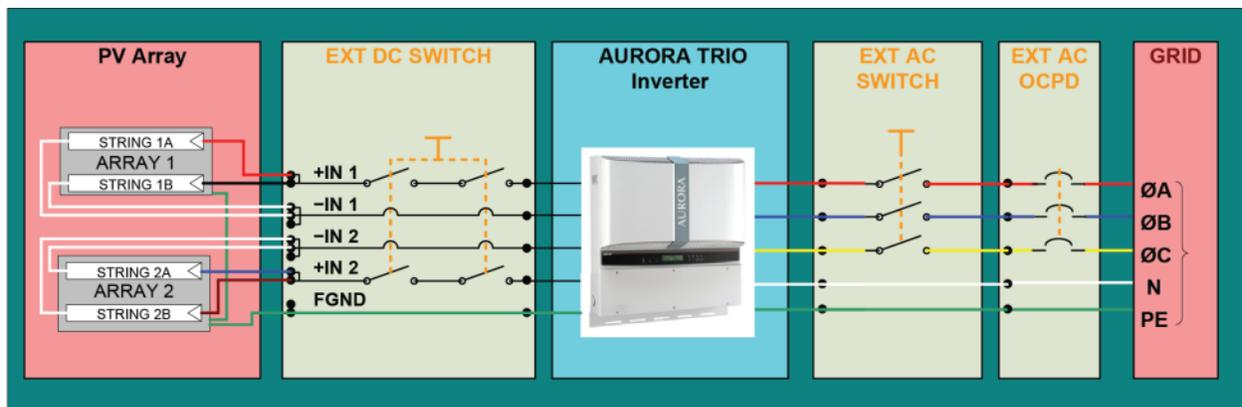

Figure 1.05 - Electrical Connection Diagram PVI-10/12-I-OUTD-US-XXX-NG
- Typical system connections for this inverter are shown in Figure 1.05.